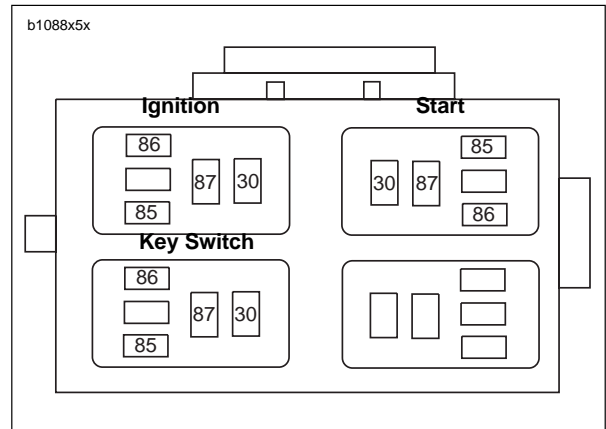

Figure 5-5. Relay Block (top view)
- See Figure 5-5. Locate starter relay. The relay is attached to the relay block left of instrument console.